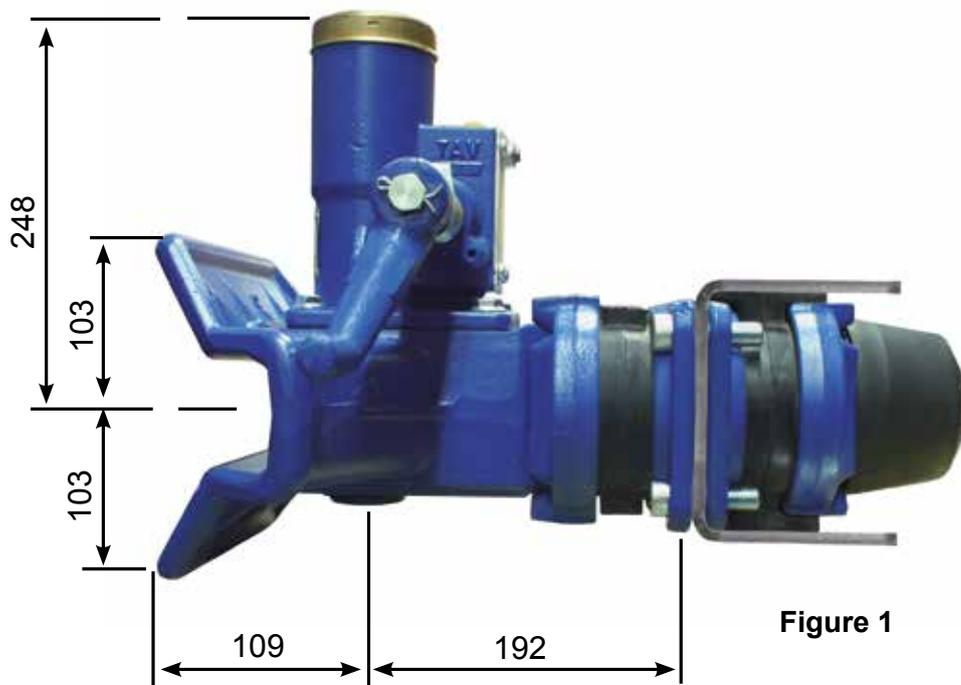

Figure 1
Install the beam plates on the drawbeam as illustrated in **Figure 1**. Install the threaded beam plate on the inner side of the drawbeam. The tightening torque is about 220 Nm. Allen key 14 mm.
- Install the coupling head as illustrated in **Figure 1** (page 13). Take account of the direction of the TAV50D coupling head rubber grommets as illustrated in **Figure 1** (page 4). Hold the coupling in the horizontal position and turn the outer nut in place by hand. **Lubricate the jaw spindle thread.**